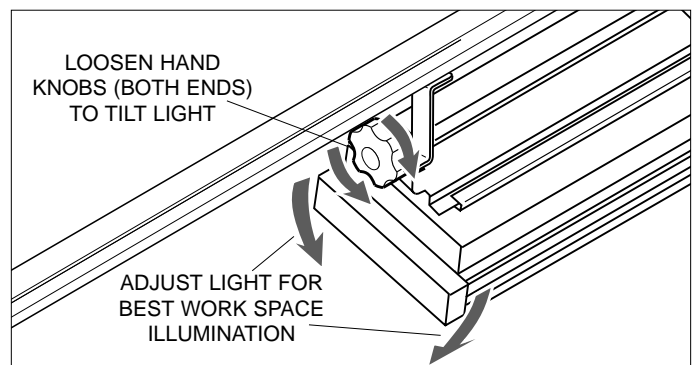

Figure 4-Fixture Adjustment
10. Loosen hand knobs on both ends (Fig. 4) and adjust tilt of light for optimum work surface illumination. Tighten hand knobs.